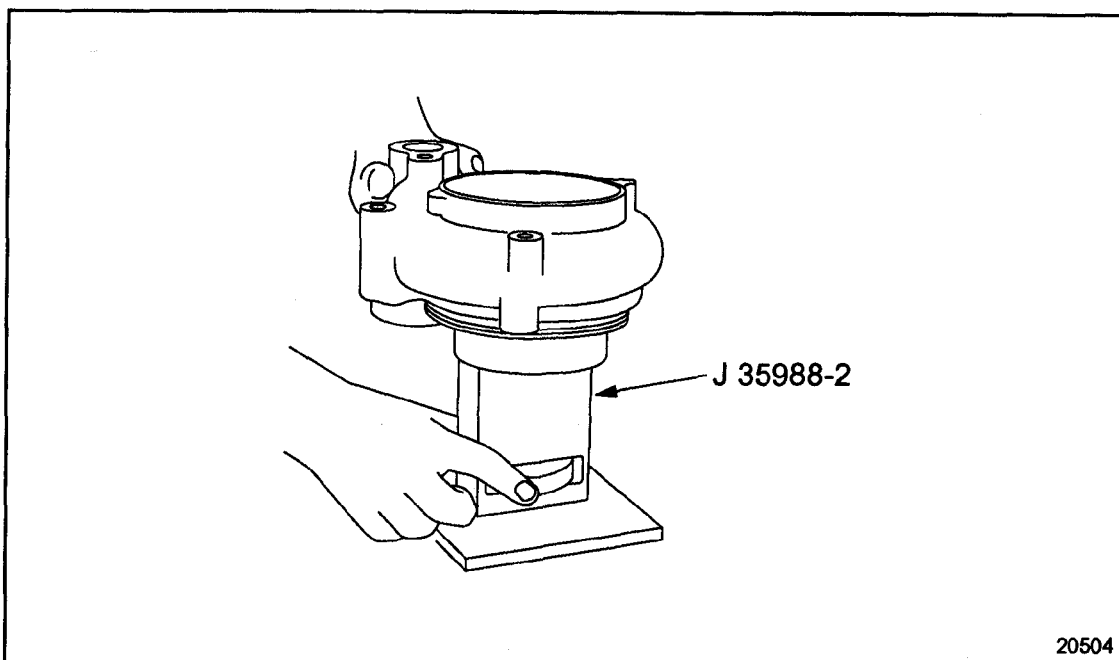

Figure 4-56 Water Pump Impeller Installation Set-Up (FM)
13. Install the water pump housing assembly to the fixture. See Figure 4-56.